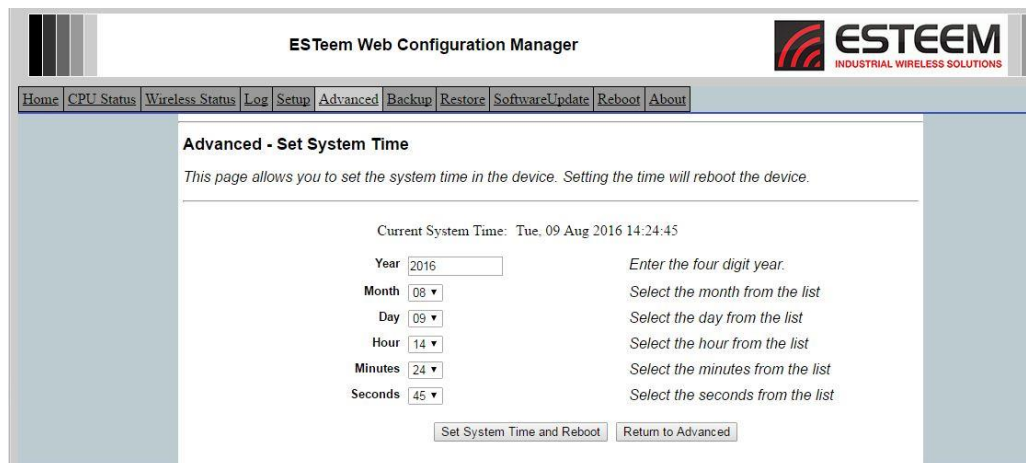

Figure 7: Advanced Features Screen
3. Select the correct date and time from the drop-down menus (Figure 7) and press the **Set System Time and Reboot** button to save the time to the real time clock.